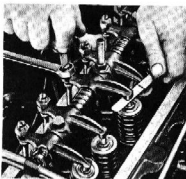

Fig. 28—Valve Tappet Adjustment
3. Check the clearance between the rocker arms and the valve stems with a feeler gauge (fig. 28). The clearance should be as follows:
4. When adjustment is necessary loosen the rocker arm adjusting screw lock nut and turn the screw clockwise slightly to decrease clearance and counterclockwise to increase clearance (fig. 28). Tighten lock nut and recheck clearance.